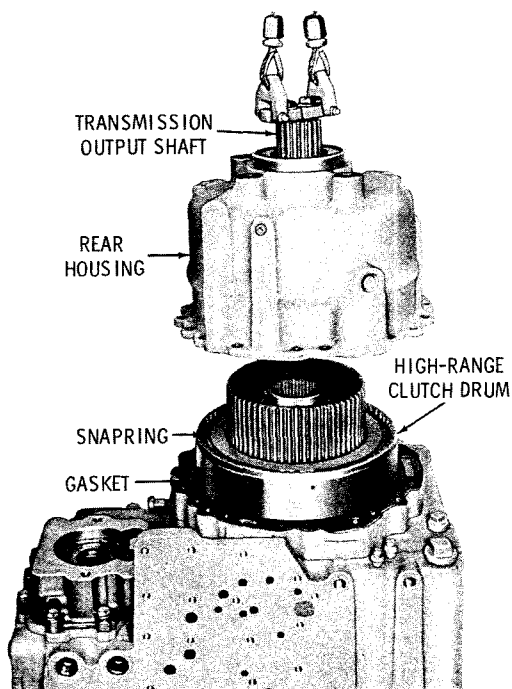

Fig. 5-32. Removing rear housing
(2) Lift the output shaft, rear housing and attached parts off the adapter (fig. 5-32). Remove the gasket.